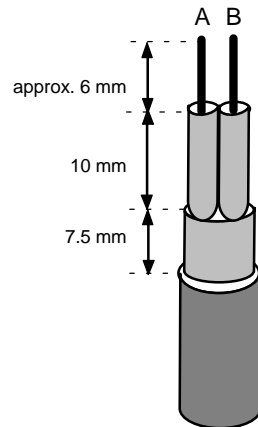

Figure 4-25 Preparing the Ends of the Cable for the Bus Connector with Axial Cable Outlet
- Strip both cable ends as shown in Figure 4-25 with the FastConnect stripping tool (sizes and lengths are shown in the table on the rear of the tool).